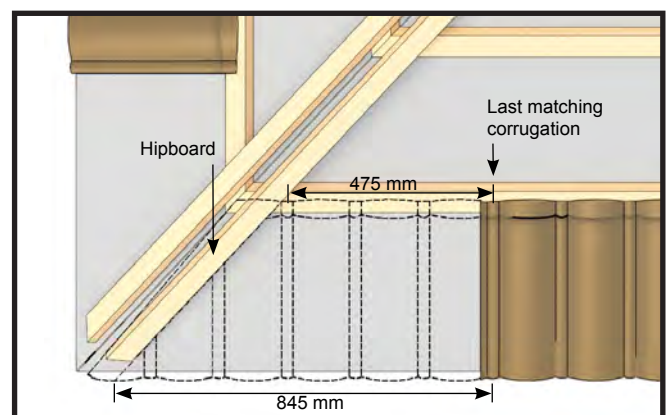
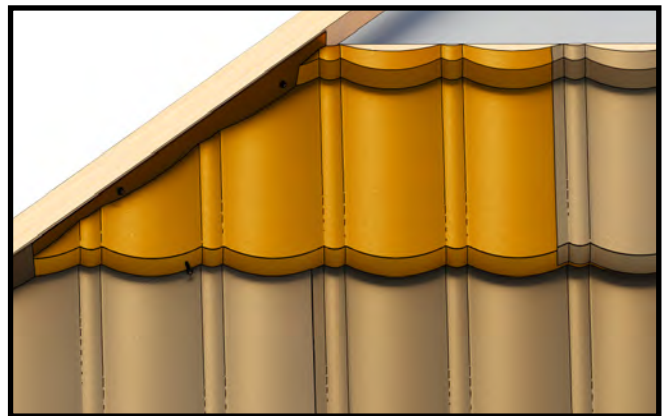

Figure 1.7
Figure 1.9
To save time marking, cutting and bending each tile, it is best done by two installers - one to measure and the other to write the measurements down on a board or piece of paper as shown (Fig 1.7). To avoid confusion, cut, bend and stack tiles in strict order.
- (i) The basic measurement (recorded on paper or board) is taken from the last corrugation on the bottom corner of the last full tile, to the hip board, along the front edge of the batten (Fig 1.7).
- (ii) Measure and mark on the tiles with chalk or similar, the required measurements taken from the roof, ensuring the MATCHING corrugation of the overlapping tile to be cut, is taken as the measure starting point (Fig 1.7). This forms the BENDING line (Fig 1.9).
Add to the bending line measurement the height of the ridge board projection above the tile line 40mm. Mark on the tiles with chalk or similar. This forms the cutting line. (Fig. 1.9)
Each tile should supply two cut pieces leaving a minimum of wastage. Preferably a hip and valley cut from each tile will minimize this waste (Fig 1.9). However, two hip cuts will also provide a lower wastage factor.
Install all cut tiles by nailing through the turn-up into the hip board, and one or more nails through the front edge into the battens (Fig 1.9).